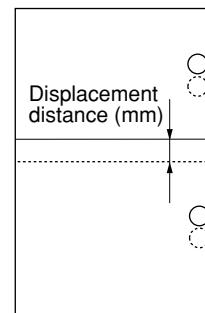

Figure 1-5-7
- When the punch hole is displaced toward the machine rear (Figure 1-5-7), shift the retainer toward the machine front (⇐).